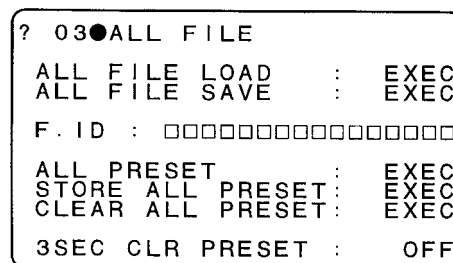

Figure 1
3. Select FILE menu > ALL FILE, and press the rotary encoder. (See Figure 1.)